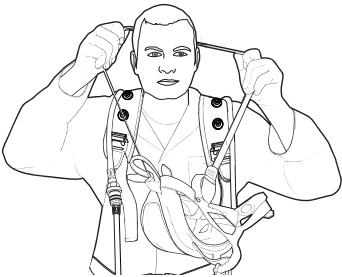

Fig. 20 Positioning the neck strap
- Place the neck strap over the back of the neck (Fig. 20).